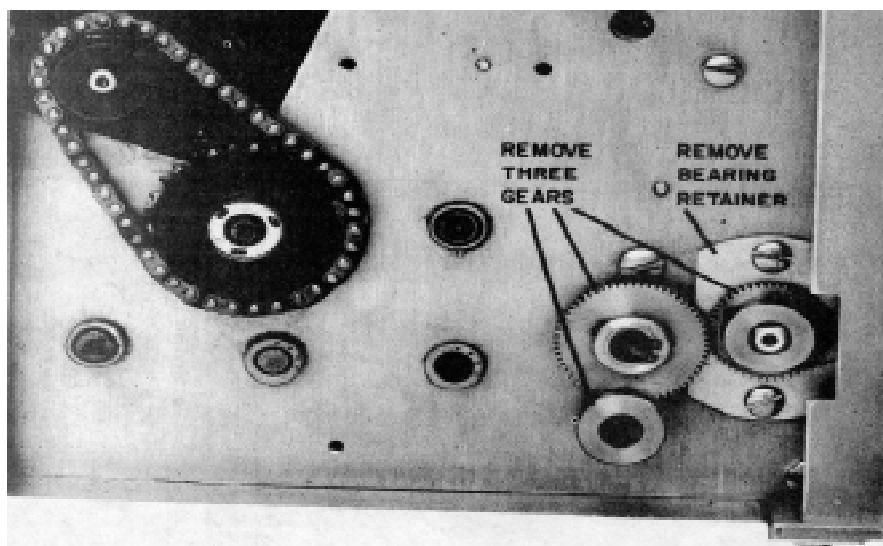

Figure 5-5. Bearing Retainer and Gears
c. On the top side of the recorder, remove the three gears adjacent to the left side bearing retainer. Note the location of the shims on the gear assemblies, so that the shims can be reassembled correctly. See Figure 5-5.